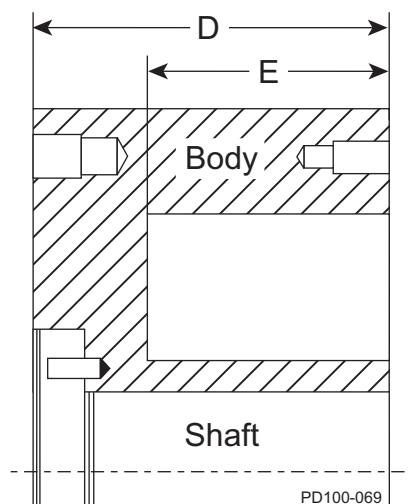
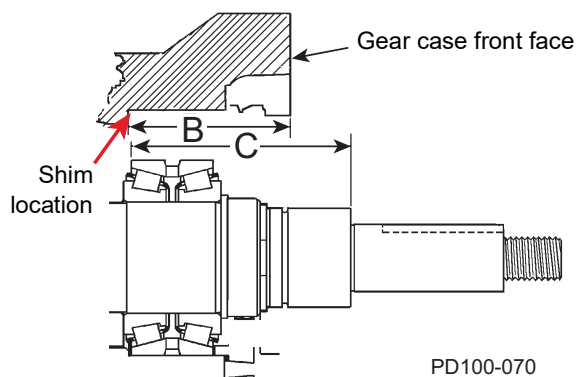

Figure 54 - Measure D and E
Figure 55 - Measure B and C
- If it is necessary to calculate the required shims for replacement shafts, bearings or both, refer to Figure 55 and Figure 54; carry measurements and calculations to three decimal places (e.g., .059).
- Measure "B" in the gear case and "C" on the shaft (Figure 55).
- Measure "D" and "E" on the body (Figure 54).
(Callouts for both Figure 54 and Figure 55)